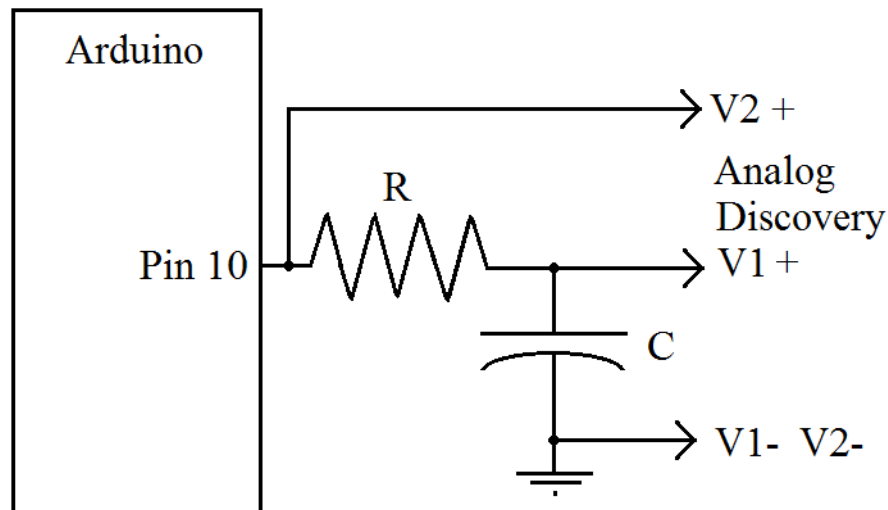

Figure 10-1. Analog Output.
For this lab the first thing to do is hook up the circuit shown in Figure 10-1. The connection to the Analog Discovery is similar to that done in Lab 9, except now we are watching the PWM signal and the output from the RC circuit. Also, note that no values were given for the R and C in the drawing. That is because we will be changing them through the course of the experiment. Initially they should be set to a  $5\text{ K}\Omega$  ( Green, Black, Red color coding) and a  $0.1\text{ }\mu\text{F}$  (104 marking) capacitor.
- 1) Setup the circuit in Figure 10-1, using a 5 K  $\Omega$  resistor and a 0.1  $\mu$ F capacitor. Set frequency to 5 Hertz (cycles / second), which is commonly written as 5 Hz. Set up the Analog Discovery as shown in Figure 10-1, then capture and document the waveform generated. Demonstrate this to your lab instructor.